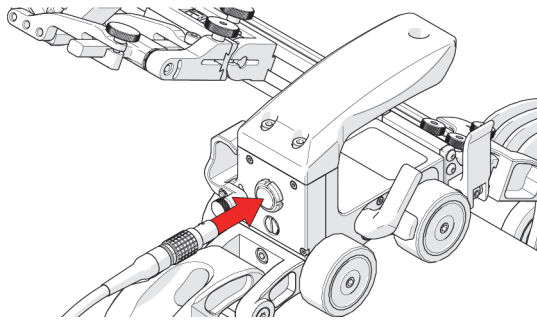

Figure 3-10 Connect encoder cable
9. Connect the encoder cable to the cart (see Figure 3-10 on page 86).